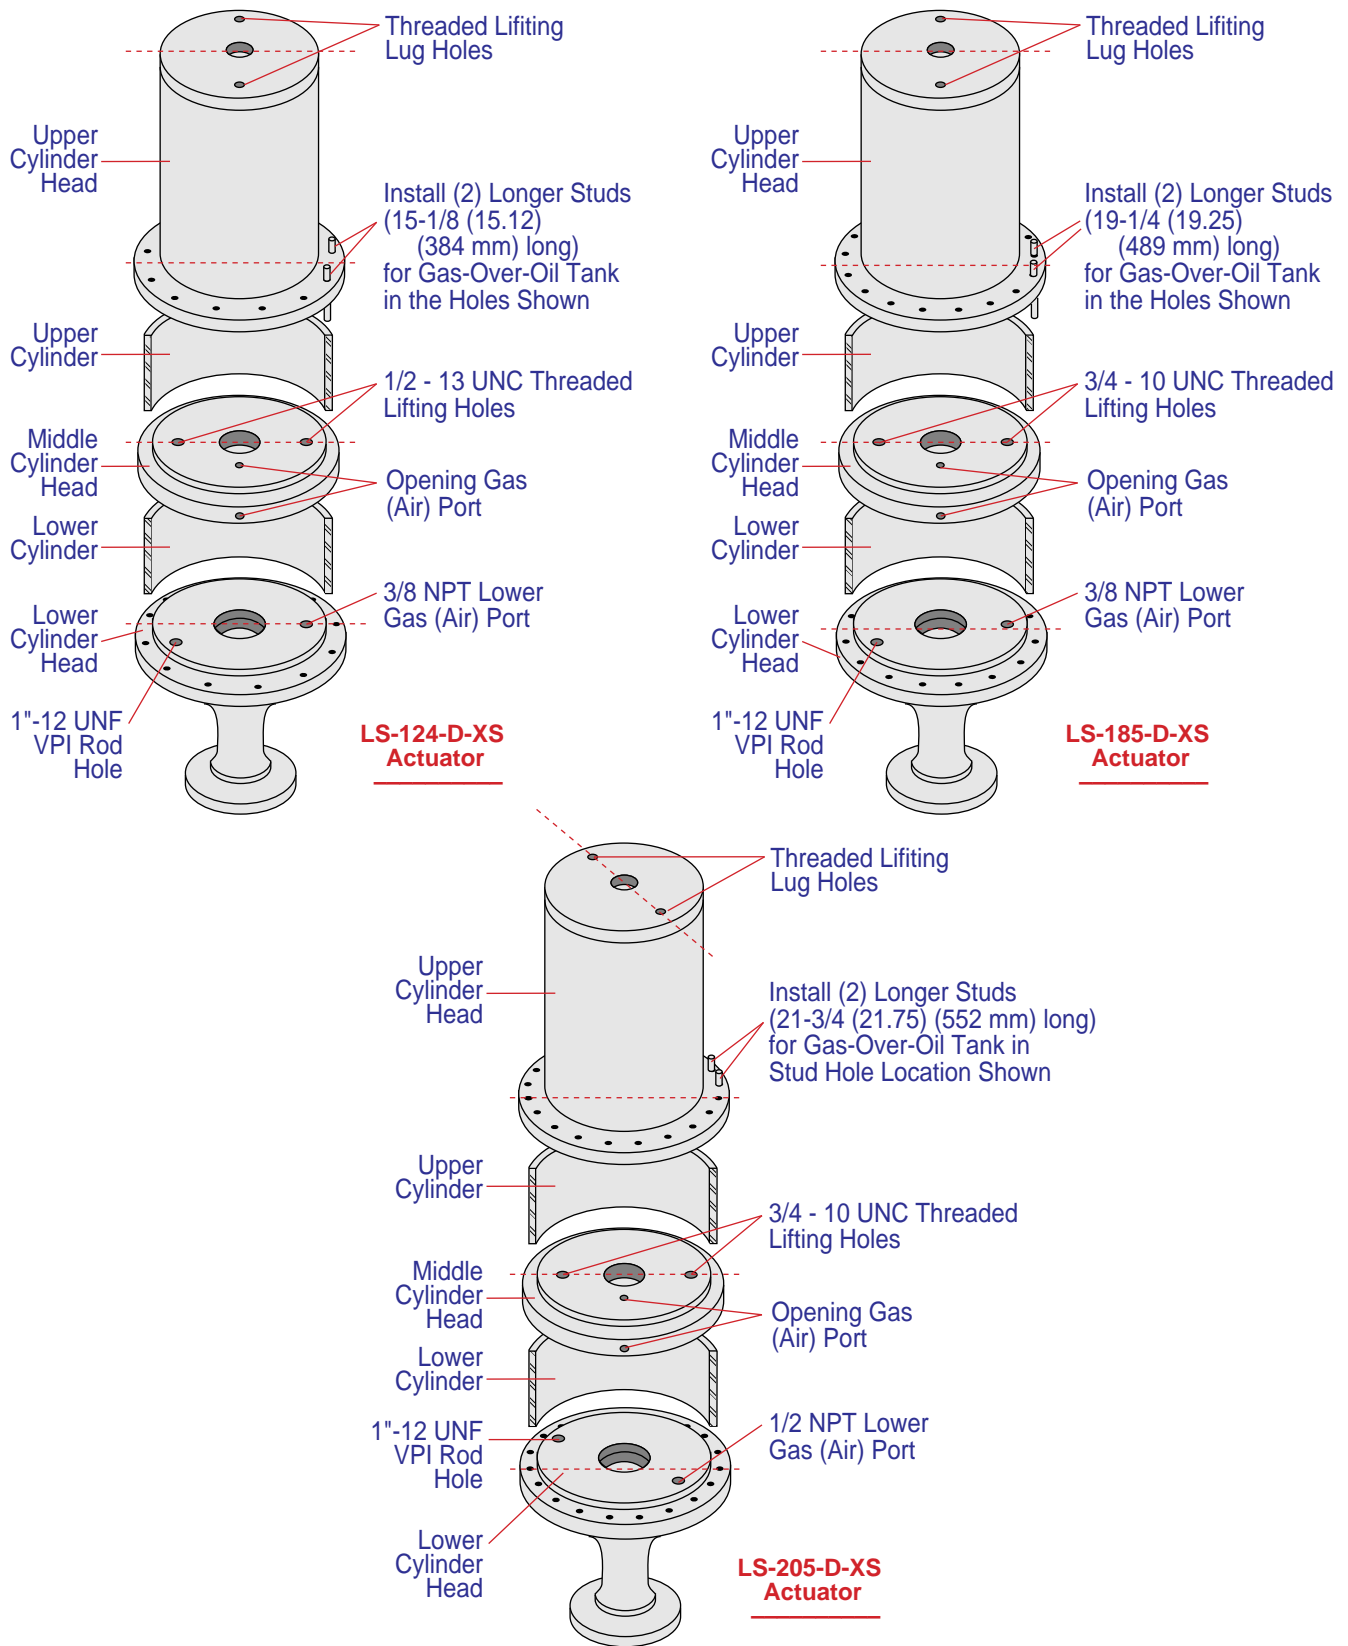

FIGURE 46
- Ⓢ Refer to Figure 46 for proper head stacking orientation.
10. Install O-rings (Items 29 & 30) on middle cylinder head (Item 27). Install the middle cylinder head with the two tapped holes up, (which are provided for lifting). Align the marks “↑” with the lower cylinder (Item 32) and the lower cylinder head (Item 40) if they were marked at disassembly. (Note: If they were not marked, align as shown in Figure 46.)
18. Install the upper cylinder head (spring case) (Item 12) and align the marks “↑” with the middle and lower cylinder heads. (Note: If they were not marked at disassembly, align as shown in Figure 46.) (Note: If the upper cylinder head does not seat fully due to the spring, install four all-thread studs and nuts that are approximately three inches (75 mm) longer than the regular studs (Item 9). Evenly tighten these down to compress the spring until the rest of the regular studs can be installed. Then, remove the longer studs and install the regular studs and nuts. Refer to Figure 43.
19. Install the studs and nuts (Items 9 & 10) using a criss-cross pattern to tighten. (Note: There are two longer studs and these should be installed as shown in Figure 46 for the gas-over-oil tank.)